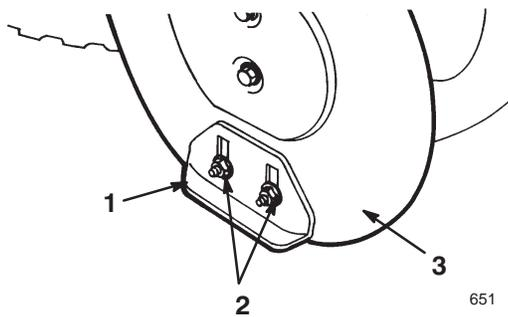

Figure 19
5. Loosen the 4 flange nuts that secure both skids to the auger side plates (Fig. 19) until the skids slide up and down easily.
- 10. Tighten the 4 flange nuts that secure both skids to the auger side plates (Fig. 19).